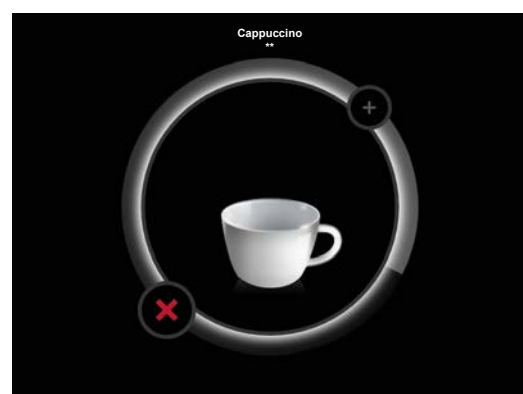

Fig. 22: Product dispensing
Depending on the product preset, you can cancel the ongoing product output by pressing “X” during dispensing (see Fig. 22).
3. While the product is being dispensed, press “+” (see Fig. 22) multiple times in succession depending on the number of additional portions that you would like to dispense.